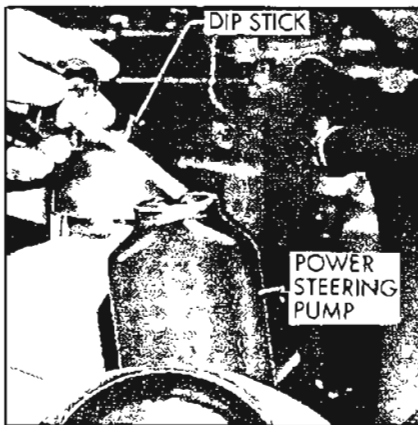

Figure 1-7—Power Steering Pump Reservoir
5. Power Steering Gear. Thoroughly clean dirt from reservoir cap on top of oil pump, then remove cap. Wipe dip stick and reinstall cap to check oil level. Add oil to maintain level between “FULL” and “ADD” marks on dip stick with system warmed up. See Figure 1-7. Use only Buick Power Steering Fluid or equivalent meeting GM specification 9985010.